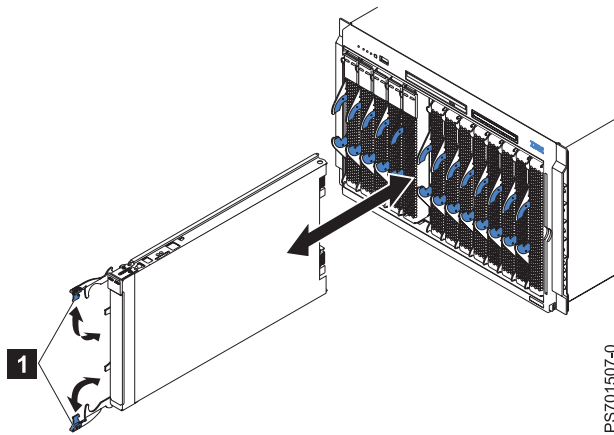

Figure 17. Installing the blade server in a BladeCenter unit
5. Verify that the release handles on the blade server are in the open position (perpendicular to the blade server, as shown in **1** in Figure 17 on page 232).